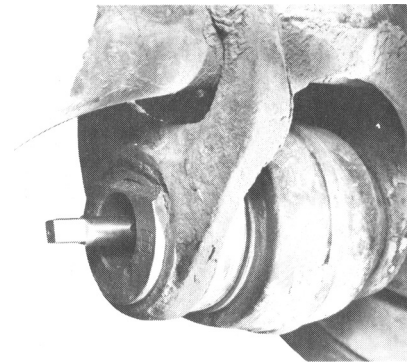

Figure 1
6. Using cutting oil, tap the hole as straight as possible to a depth of about 1-1/2". See Figure 1.